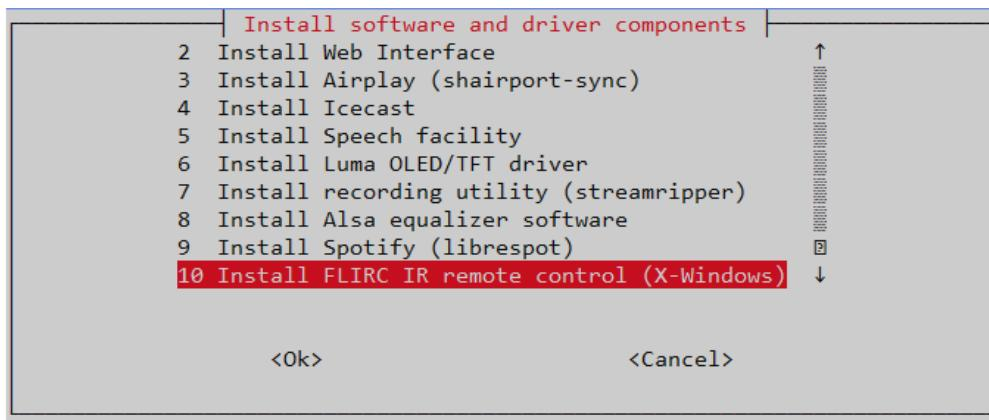

Figure 214 Install FLIRC IR remote control
- Select option **10 Install FLIRC IR remote control (X-Windows)** from the **radio-config** menu shown in *Figure 214 Install FLIRC IR remote control* on page 162. Note that you will need to use the down arrow key on your keyboard to see option 10.